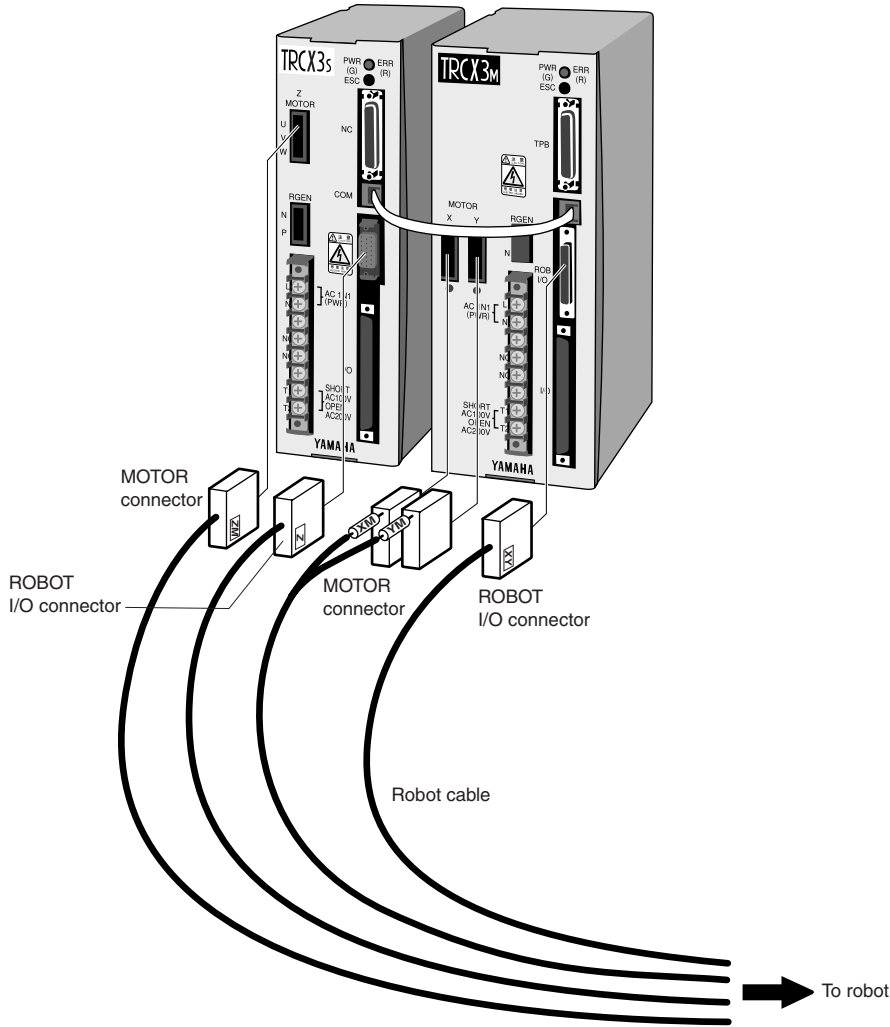

Fig. 3-2 Connection to TRCX controller (3-axis model)
- 2) While referring to Table 3-2 and Fig.3-2, securely insert the motor connector into the correct position on the controller until a click is heard.
- 3) While referring to Table 3-2 and Fig.3-2, insert the robot I/O cable into the correct position on the controller.